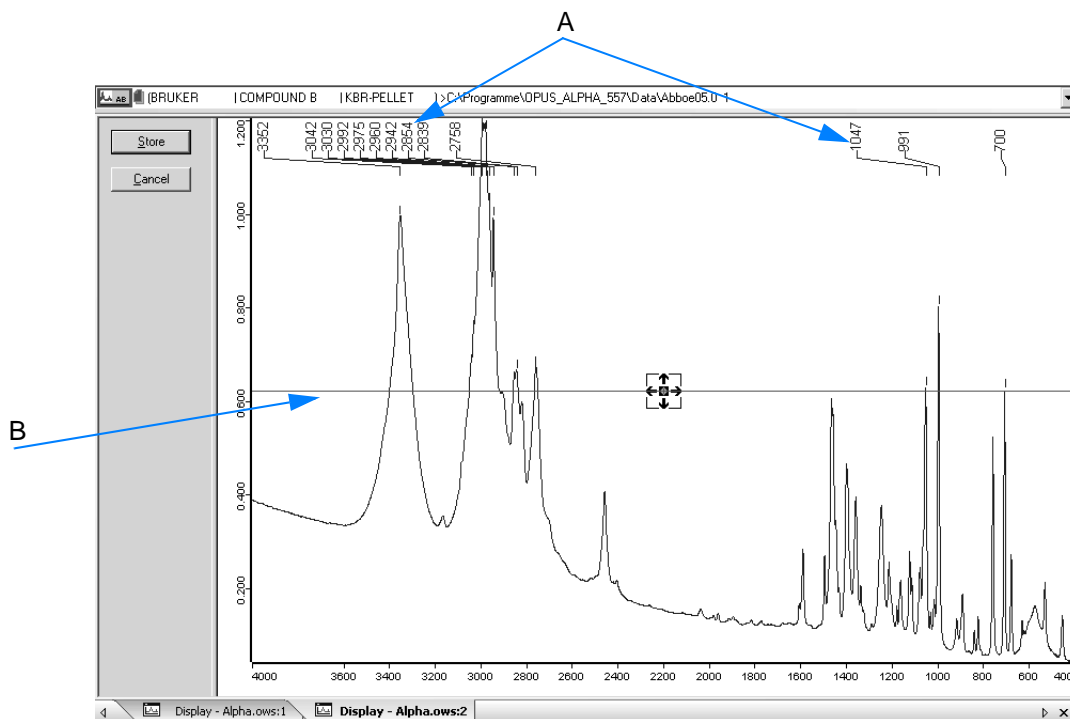

Figure 151: Interactive Peak Picking
- 4 By default, a maximum peak sensitivity is set, i.e. as many as possible number of peaks are displayed (A in figure 151).
- 5 A line (B) is shown by default which can be moved upwards and downwards to define a certain threshold value for peak picking.